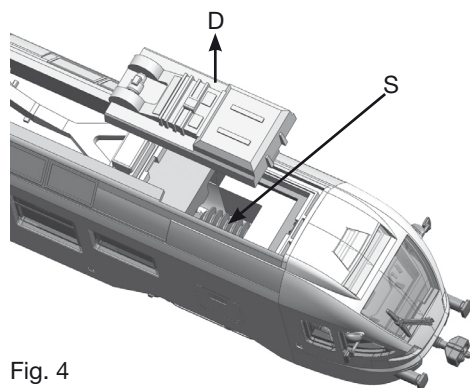

Fig. 4
You do not have to open the motor coach to lubricate the drive screw. Instead, it is sufficient to remove the roof component (D) as shown in **Figure 4**. Then you can see the drive screw (S) and can oil it. Please remember that the motor coach has a motor and gear in both end wagons. Then move the motor coach back and forth a little bit to evenly distribute the oil. Use a commercially available oiler with a precision hollow needle or a pin. **Caution: do not use salad oil or skin crème.** No more service is needed. We also do not recommend separating the individual units for whatever reason.